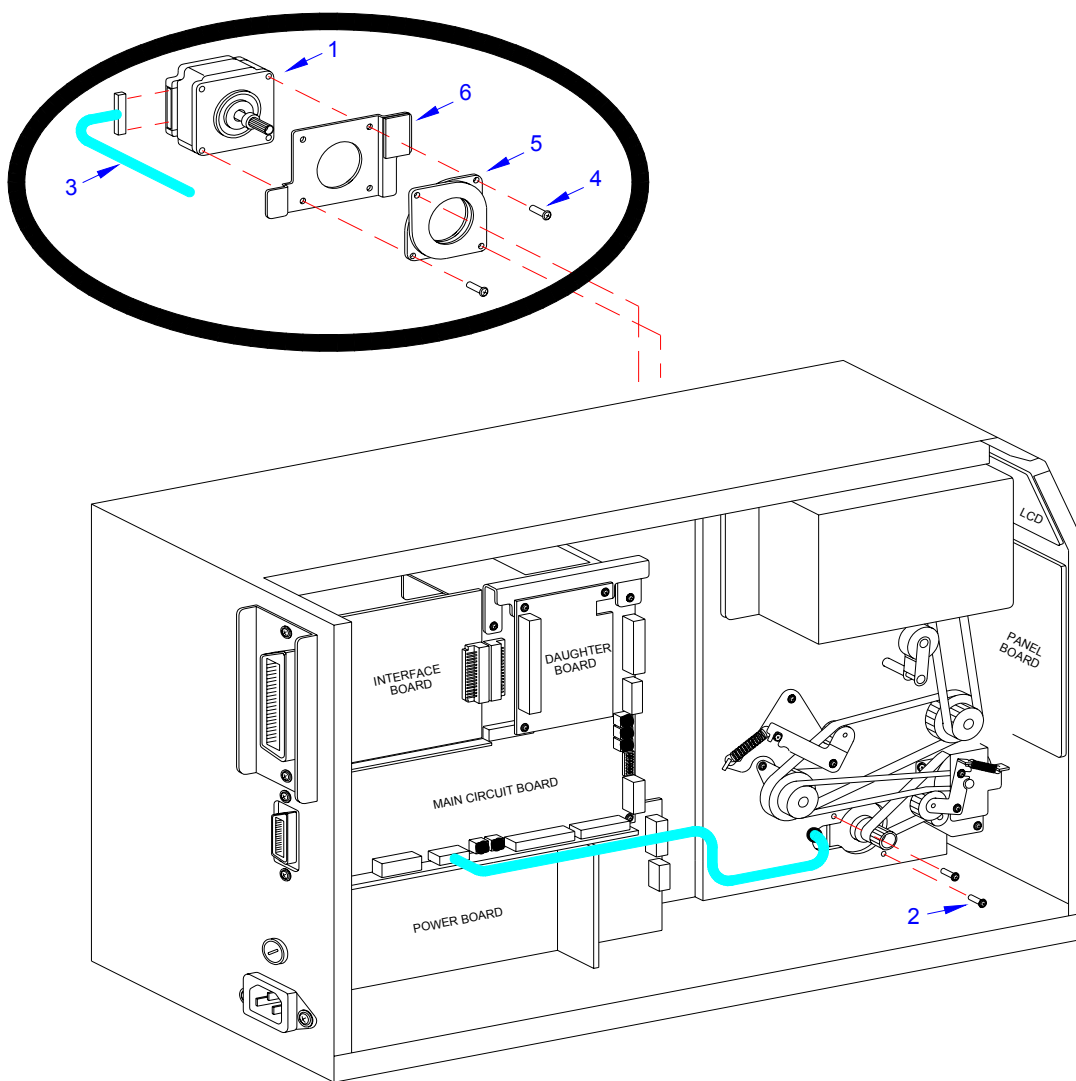

Figure 7-9, Motor Replacement
- 3 Locate motor (1, Figure 7-9) position from the left side of the printer.